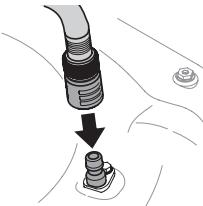

Figure 40
- Attach garden hose with the deck wash nozzle to the water port on your deck's surface (Figure 40).